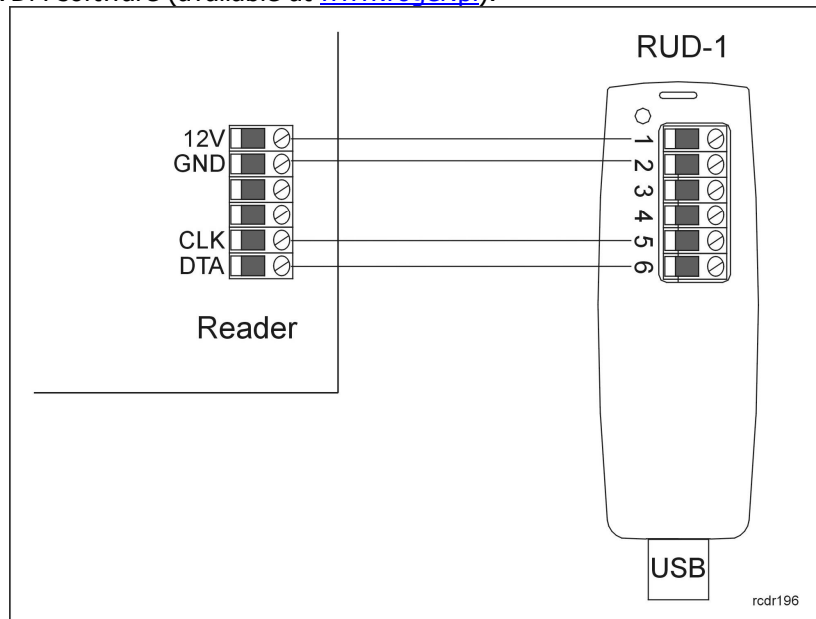

Fig. 3 Connection between PRT82MF/PRT84MF reader and RUD-1 interface
To use the method it is necessary to connect the reader to PC by means of RUD-1 interface (Fig. 3) and run RogerVDM software (available at www.roger.pl).
1. Connect the reader to RUD-1 interface according to Fig. 3.